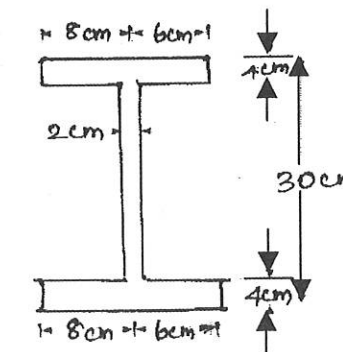

Figure 5
15. (a) Locate the shear centre of the section shown in Figure 5.